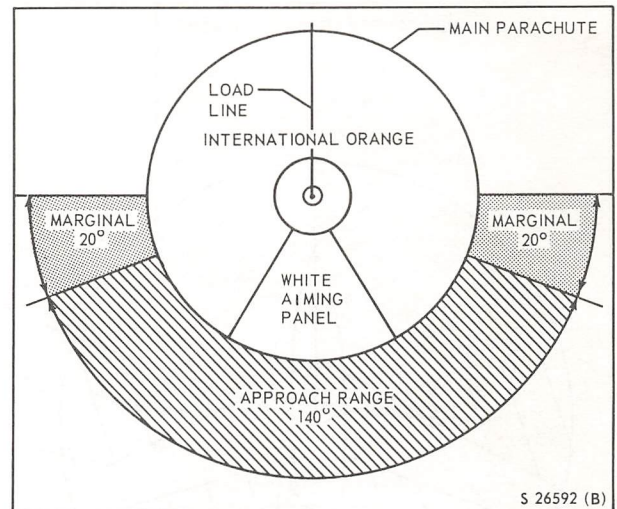
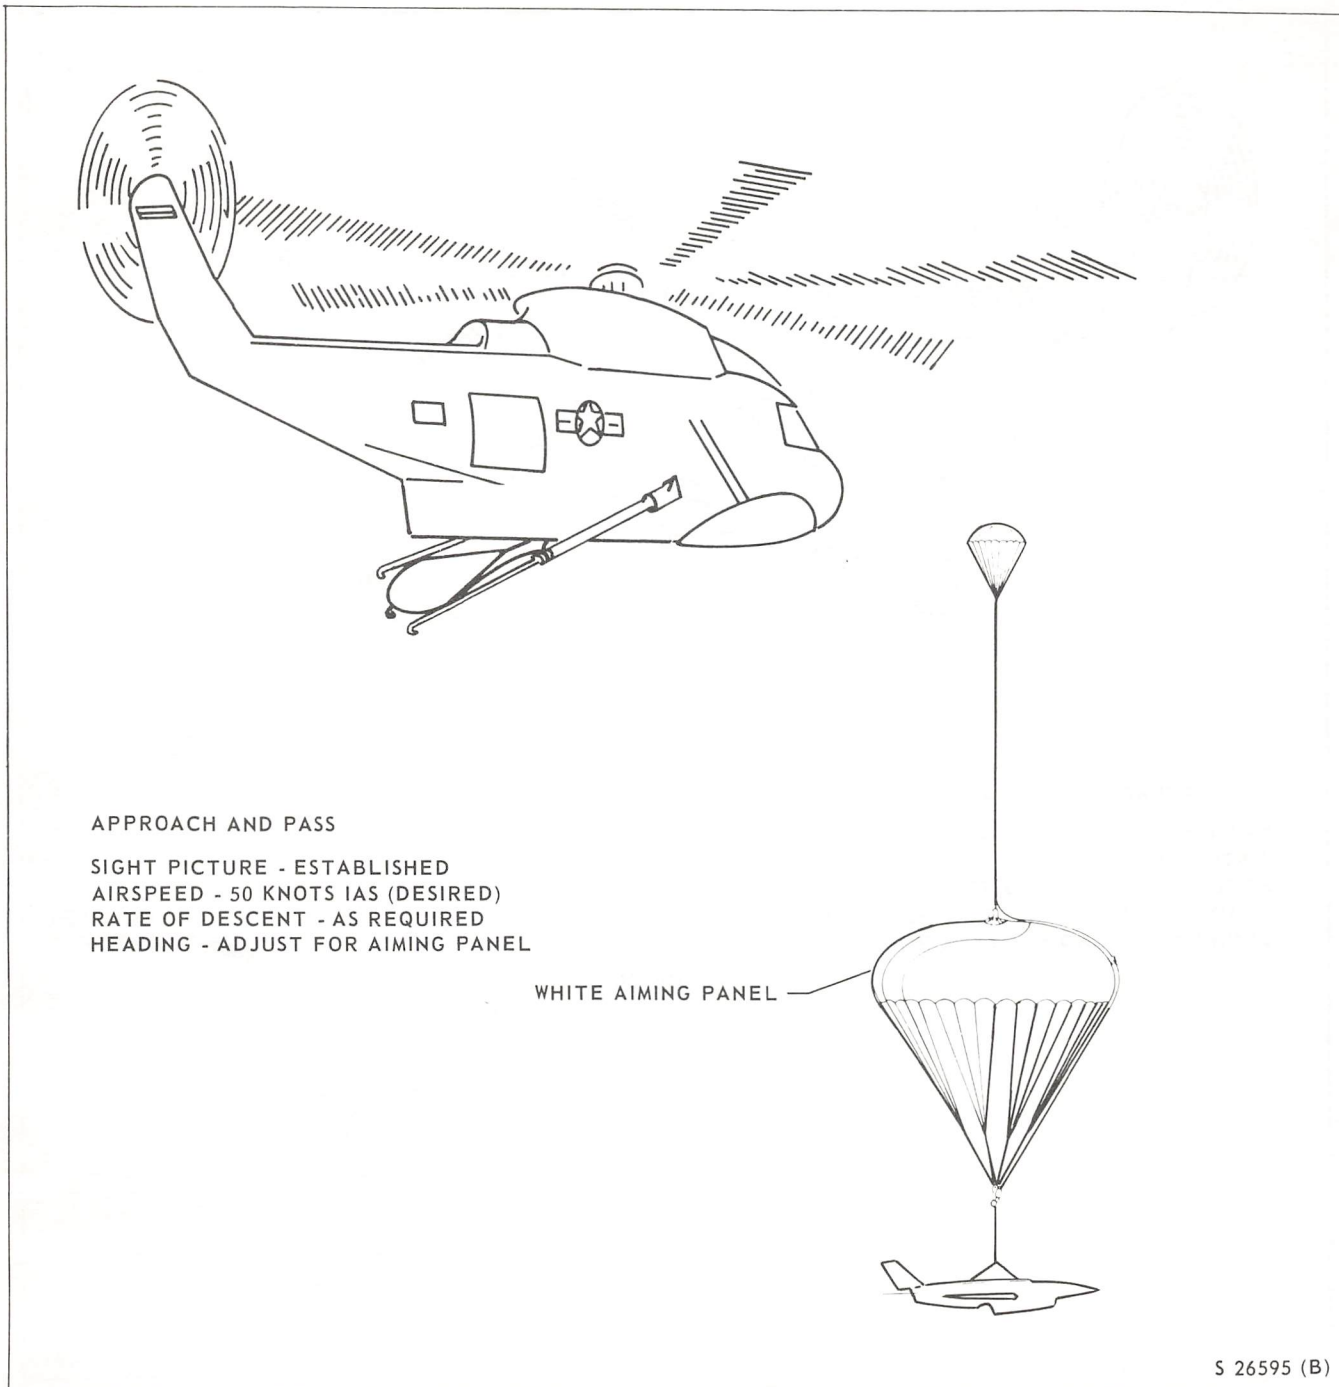

Figure 3-5. Helicopter Approach Range (Vertical View Typical MARS D or 81.6-Foot Configuration Main Canopy)
Figure 3-8. Helicopter Approach and Pass (Typical MARS D or 81.6-Foot Configuration)
**ESTABLISHING THE APPROACH (MARS D OR 81.6-FOOT RECOVERY SYSTEM).** The approach technique for the MARS D recovery system is the same as for other systems except that visual reference for determining the direction of approach is obtained solely by reference to the white aiming panel. The load line has no position indicator (black flag). It is attached to the main parachute on the opposite side from the white aiming panel; therefore, the approach will be toward the white aiming panel (see figure 3-5). Figures 3-8 and 3-9 apply to the MARS D system except for the design of the main canopy and deletion of the position indicator from the load line.